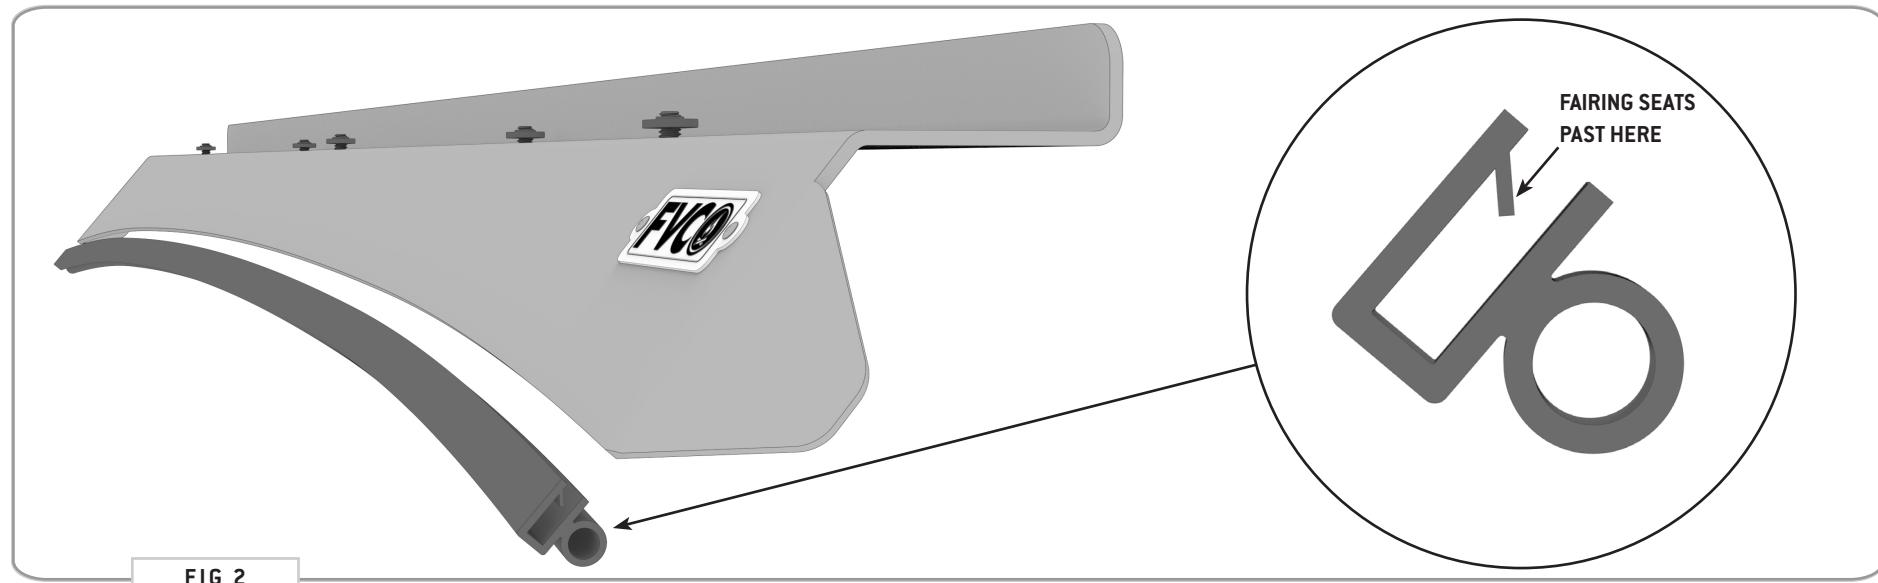

FIG 2
1.3 Gasket Install: Attach the **Fairing Gasket** to the **Fairing** in the orientation as shown in **FIG 2**. Firmly press on the **Gasket** with your hand or a mallet until it "seats" itself into place along the front edge of the **Fairing**.